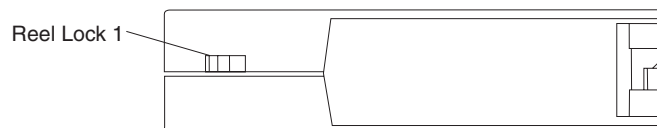
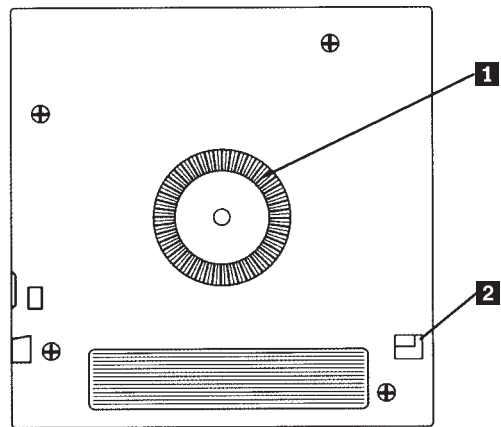

Figure A-1. End view of tape cartridge
Figure A-2. Bottom view of tape cartridge
2. Look at the end of the tape cartridge, holding it as shown in Figure A-1; now look at the bottom of the tape cartridge, holding it as shown in Figure A-2 on page A-3.